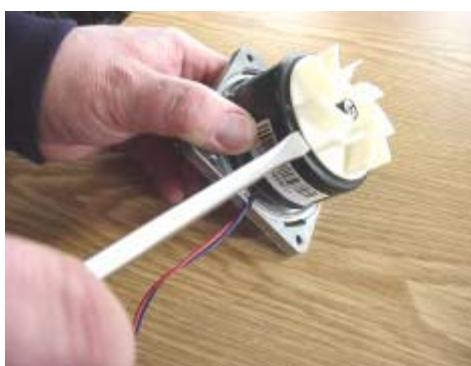

Fig.237 Fan wheel
17. Remove the fan wheel from the old fan motor and install it on the new fan motor. (**Note:** Make sure to fit the fan wheel correctly, see Fig. 237.)